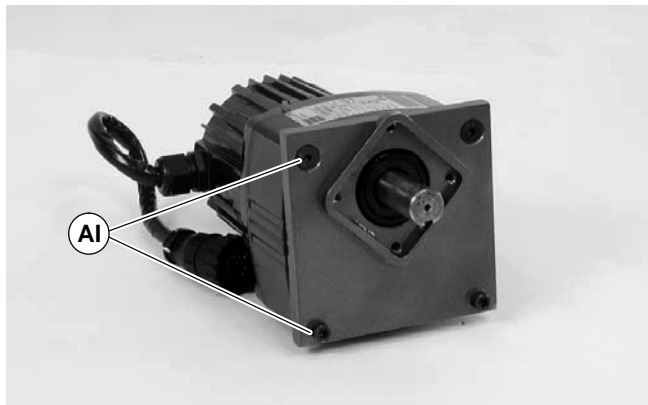

Figure 21
8. Remove four (4) adapter plate screws (AI of Figure 21). Remove adapter plate.